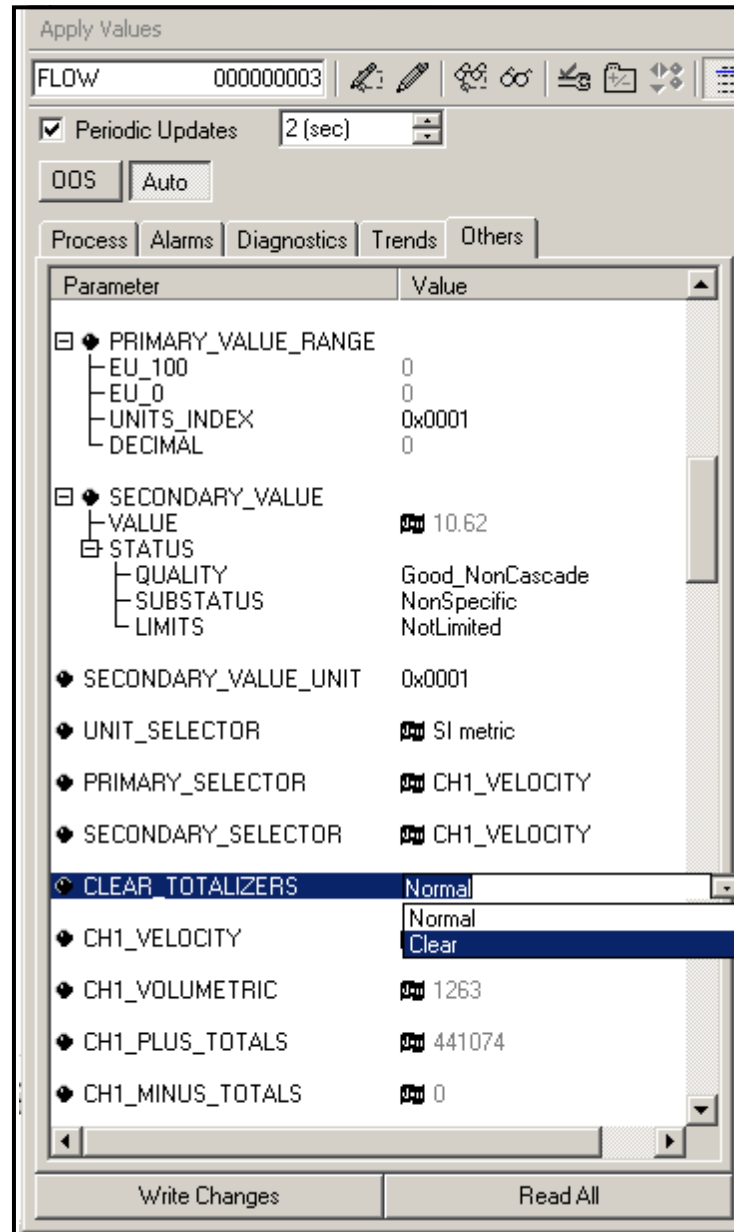

Figure 61: Clear Totalizers Drop Down List
3. Select **Clear** from the drop down list box (see *Figure 61*).